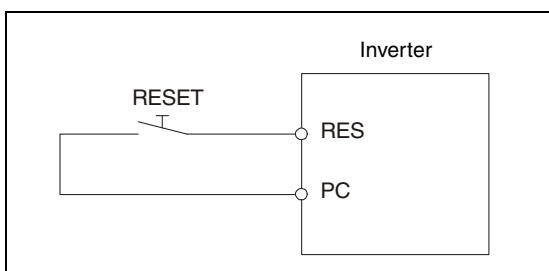

Fig. 7-3:
- Turn on the reset signal RES for more than 0.1s. (Connect the terminals RES and SD when using sink logic or terminals RES and PC as shown Fig. 7-3 when using source logic). (If the RES signal is kept on, "Err." appears (flickers) to indicate that the inverter is in a reset status.)